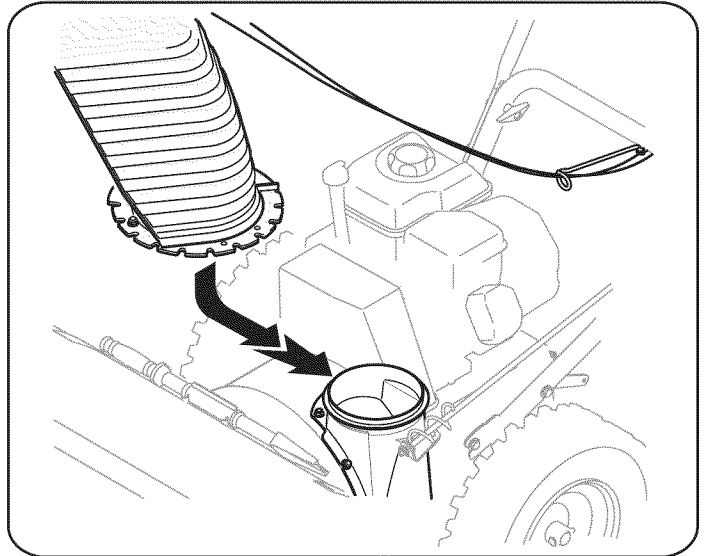

Figure 4
6. Place chute assembly onto chute base as shown in Fig. 4, making sure that the notches engage with the spiral end of chute directional control.
8. If not already done, slip the cables that run from the handle panel to the discharge chute into the cable guide extending over the top of the engine. See Fig. 4.